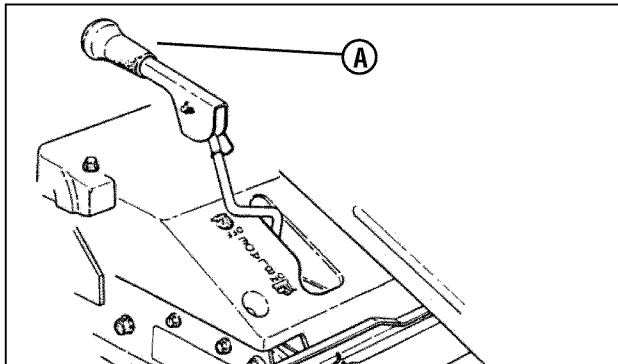

Figure 4: Blade lever (in 'Off' position)
2. Make certain the Blade Lever (A, Figure 4) is in the “OFF” position.
- Make certain the Blade Lever (A, Figure 4) is in the “OFF” position.